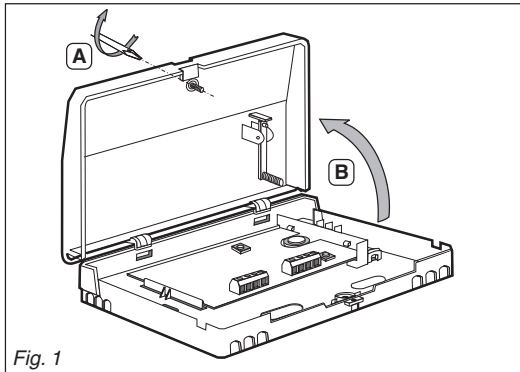
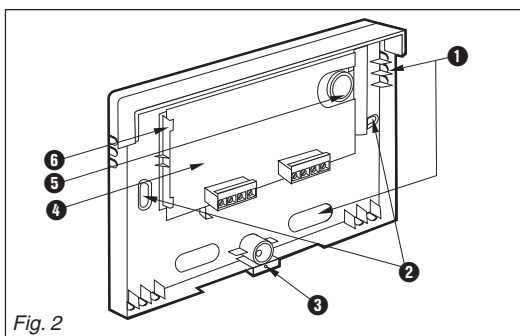

Fig. 1
Fig. 2
3.1 Open housing (fig. 1)
- 1 - Slacken the retaining screw (A).
- 2 - Remove the cover (B).
3.2 Product overview (fig. 2)
- 1 - Engage the cover in the retainer at the top (fig. 1).
- 2 - Close the cover and tighten the retaining screw (fig. 1).
- 3 - Use eye (fig. 2 ; ❷) for sealing.